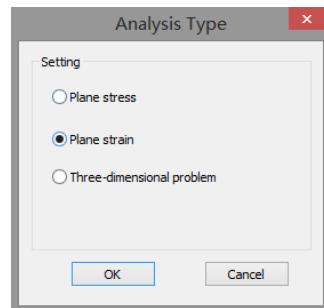

Figure 35 Definition of analysis type
- (4) Define the analysis type (Figure 35);